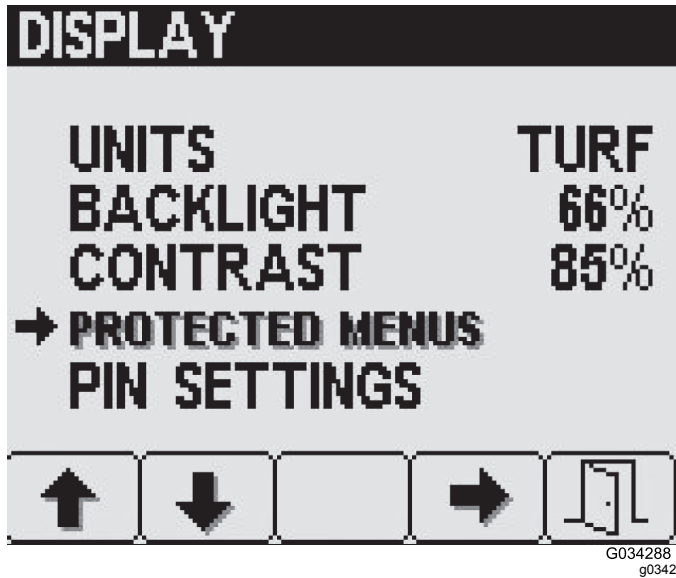

Figure 22
1. Press button 2 on the Display settings screen until you reach Protected Menus, then press button 4 to select Protected Menu (Figure 22).